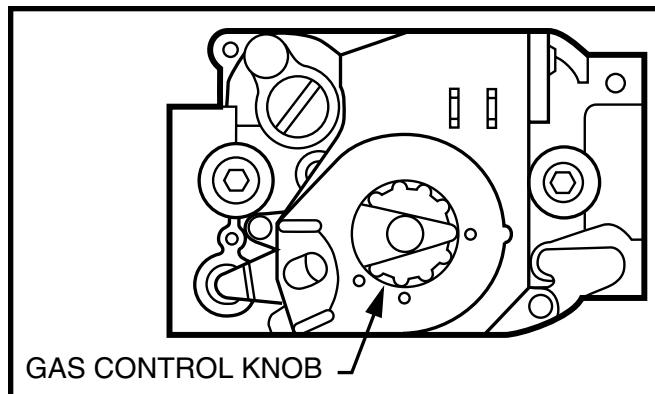
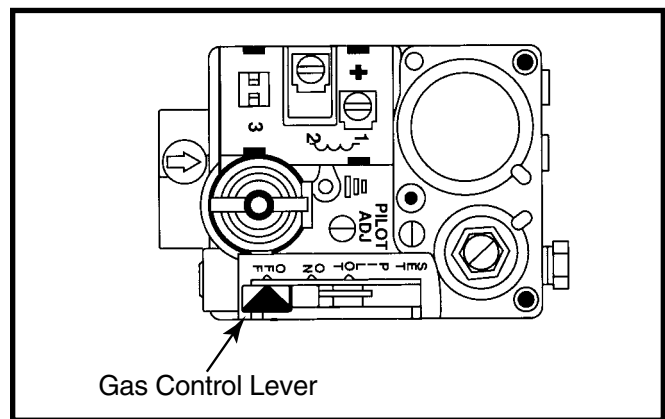

Figure 30. Direct Ignition Gas Valve - Honeywell
Figure 31. Direct Ignition Gas Valve - Robertshaw
- **Honeywell**: push in and turn the gas control knob clockwise to **OFF**. See Figure 30.
- **Robertshaw**: push the gas control lever (**Do not force!**) to the **OFF** position. See Figure 31.
4. Wait ten (10) minutes to clear out any gas. If you smell gas, **STOP!** and follow the Safety Information on page 22. If you do not smell gas, proceed to next step 5.
- **Honeywell**: push in and turn gas control knob counter-clockwise to **ON** (Figure 30).
- **Robertshaw**: push the gas control lever to the **ON** position (Figure 31). **Do not force!**
- Honeywell (Figure 30): Turn gas control knob clockwise to **OFF**, Robertshaw (Figure 31): Push the gas control lever to **OFF**.
- **Honeywell**: push in the gas control knob and turn clockwise to **OFF** (Figure 30).
- **Robertshaw**: push the gas control lever to **OFF** (Figure 31). The lever cannot be placed in the off position unless it is pushed in slightly. **DO NOT FORCE!**
- **Honeywell**: push in and turn the gas control knob clockwise to the **OFF** position (Figure 30).
- **Robertshaw**: push the gas control lever to the **OFF** position (Figure 31).